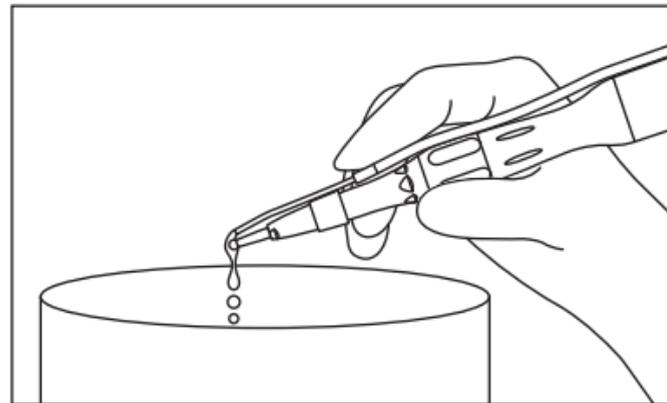

Fig. 6
- 2) Operate the handpiece while running clean water into the irrigation tube with the irrigation nozzle, at the chair-side for at least 20 seconds to purge fluids out of the handpiece. (Fig. 6)